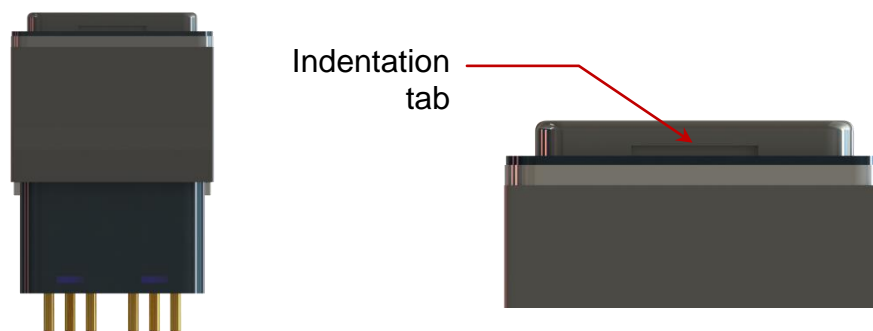
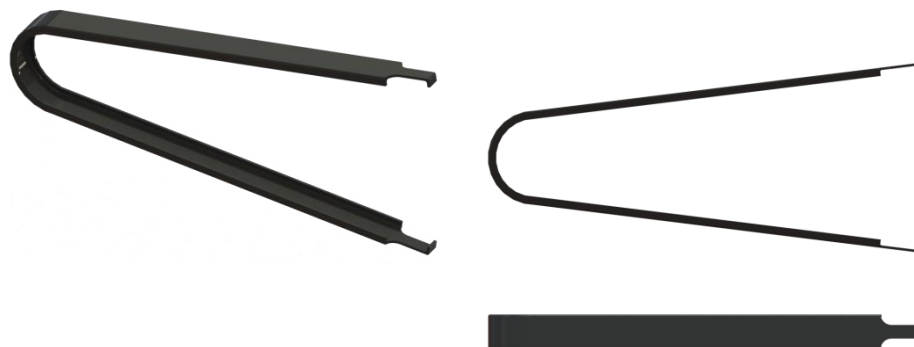

Figure 1: Free Position
Figure 3: Pushbutton Extraction Tool (P/N 15193)
In the latch-down position, pushbutton indentation tabs should be hidden. In the free position, pushbutton indentation tabs should be visible. See Figures 1 & 2 for pushbutton protrusion heights and indentation location.
Using pushbutton extraction tool, see Figure 3. position the tool's gripping tabs around the two indentations, located on the pushbutton's retainer as shown in Figures 1 and 4. Clamp / squeeze the tool gently, but firmly, and pull the pushbutton away from the switch / indicator housing as shown in Figure 5. The removal force should be in the range of two (2) to five (5) pounds.
Using pushbutton extraction tool, as shown in Figure 3. Position the tool's gripping tabs around the two indentations, located on the pushbutton's retainer as shown in Figures 18 and 19. Clamp/squeeze the tool gently, but firmly, and pull the pushbutton away from the switch / indicator housing as shown in Figure 19. The removal force should be in the range of two (2) to five (5) pounds.